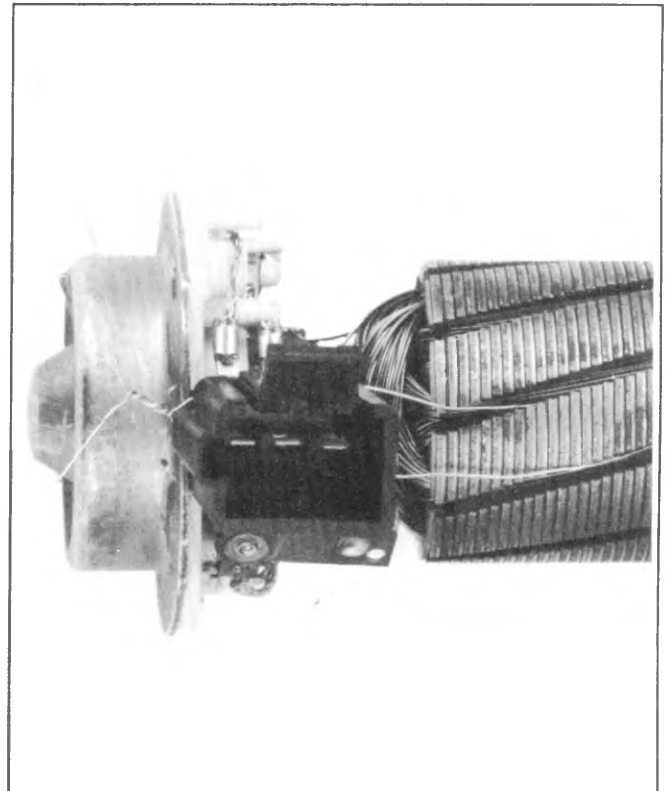

Fig. 8-15--End Cap Assembly
3. To maintain the end cap in its assembled position on armature shaft during re-assembly of armature in the wiper housing proceed as follows: Using small wire such as tag wire, tie armature to end cap assembly as shown in figure 8-15.